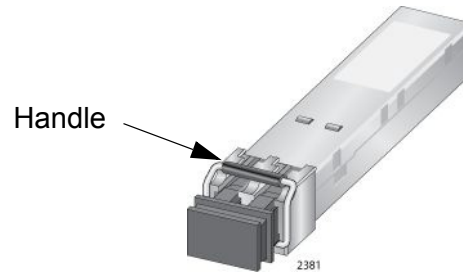

Figure 31. Handle on SFP Transceiver
3. If you are installing the module in the top SFP+ slot, position the module with the handle facing up as shown in Figure 31 on page 72. If you are installing the module in the bottom slot, position the module with the handle facing down.